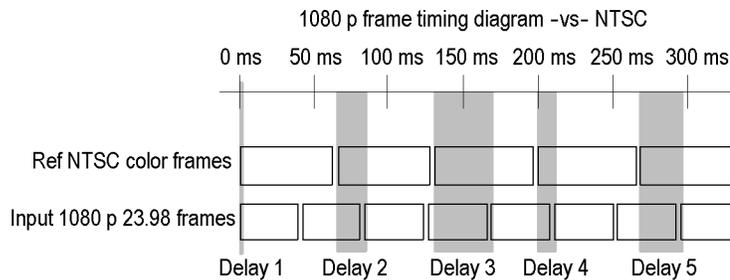

**Figure 17: Timing display of non-integer multiples of reference rates**
**Non-integer multiples of reference rates.** If you time input rates that are not integer multiples of the reference rates, the instrument cannot measure the timing deterministically, so it displays the relationships as several circles. Each circle represents a possible timing offset measurement relative to the reference cross-hair. Display emphasis is given to the circle that times closest to zero offset and the numerical readouts track this pair. (See Figure 17.)